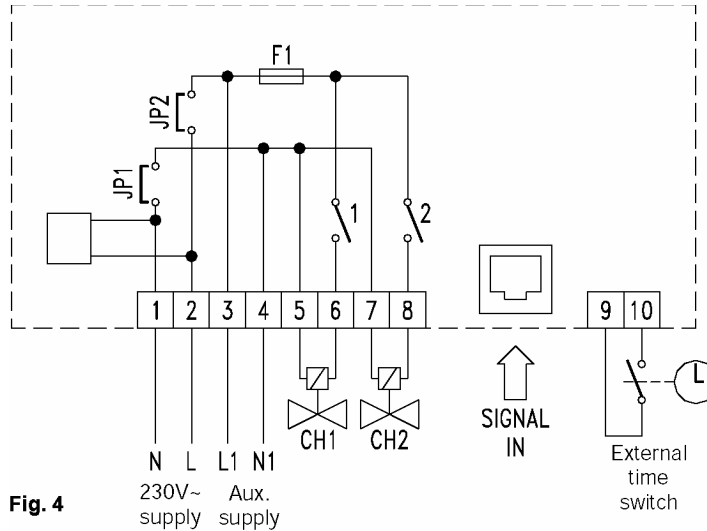

Fig. 4
The receiving system is composed at least of an 'active antenna DAE A83' and a 'module relay DLP200M'. Wire carefully the power supply and the outputs at the DLP 200M side. Then with the unit turned off, insert the cable interconnecting the active antenna and the relay module into the relevant sockets (see Fig. 4). The cable coming from the active antenna, or the output signal of a DLP 600 M unit if the system requires a chain of relay modules must be inserted in the socket labeled as 'SIGNAL IN' on the board.
Electrical Installation	<p>This section explain how to wire correctly the DLP 200 M: please read carefully the following and see Fig. 4 which shows the internal terminals layout and how they are internally connected. Terminals 1 and 2 are the unit power supply input: wire them to the 230V~, ensuring terminal 1 is the wired to the Neutral. The electronic circuitry is internally protected with a self-resetting thermal fuse, meanwhile the loads are protected by a 0.5A fuse F1 (8) Fig. 2. Terminals 3 and 4 are the auxiliary load supply, terminals 5 to 8 are the two loads outputs.</p> <p>When delivered the module is internally bridged to the power supply line (230V~) and therefore is capable of supplying directly the loads wired to its terminals 5 to 8 as shown in Fig. 4. In this case the auxiliary supply in 3 and 4 must not be connected and the loads are driven with 230V~ voltage. If the loads need to be driven with a different voltage (as an example a 24V~ load) the receiving unit must be slightly modified as following.</p> <ol style="list-style-type: none"> 1. Cut the wire bridges JP1 and JP2 labeled as (6) and (7) Fig. 2 and completely remove them. This will remove the 230V~ supply to the internal bus for the loads. 2. Wire to terminals 3 and 4 (Fig. 4) an external power source (as an example a transformer with 24V~ output). 3. Wire to terminals 5 .. 8 the loads you have to drive. These loads must be rated for the voltage that you are supplying at terminals 3 and 4. 4. Check the loads protection fuse F1 (8) Fig. 2, it must be rated according to the maximum loads current (see following).
Terminals 9 and 10 (Fig. 4) are the inputs for an external clock switch. If the wireless thermostats used in the wireless system provide a 3°C reduction (such as DTP A80 BC), by connecting an external clock the system will be able to regulate the temperatures with a programmed reduction of 3°C. To enable the programmed reduction, just wire terminals 9 and 10 to the output contacts of an electronic or electromechanic clock. When the clock contacts are closed, the system will regulate according to the comfort set point, when they are open the regulation will be performed according to the 3°C reduced set point.